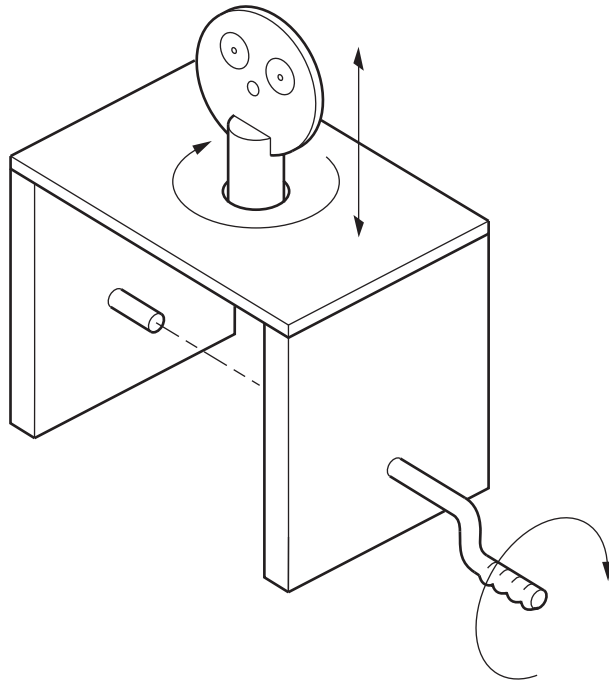

Fig. 4
- 3 Fig. 4 shows an incomplete drawing of a child's mechanical toy. When the handle is turned the face moves up and down and turns around as shown.
- (a) Give the correct term for the type of movement shown by the arrows in Fig. 4:
(c) Give **one** reason why it would be unlikely for the toy shown in Fig. 4 to be sold commercially.